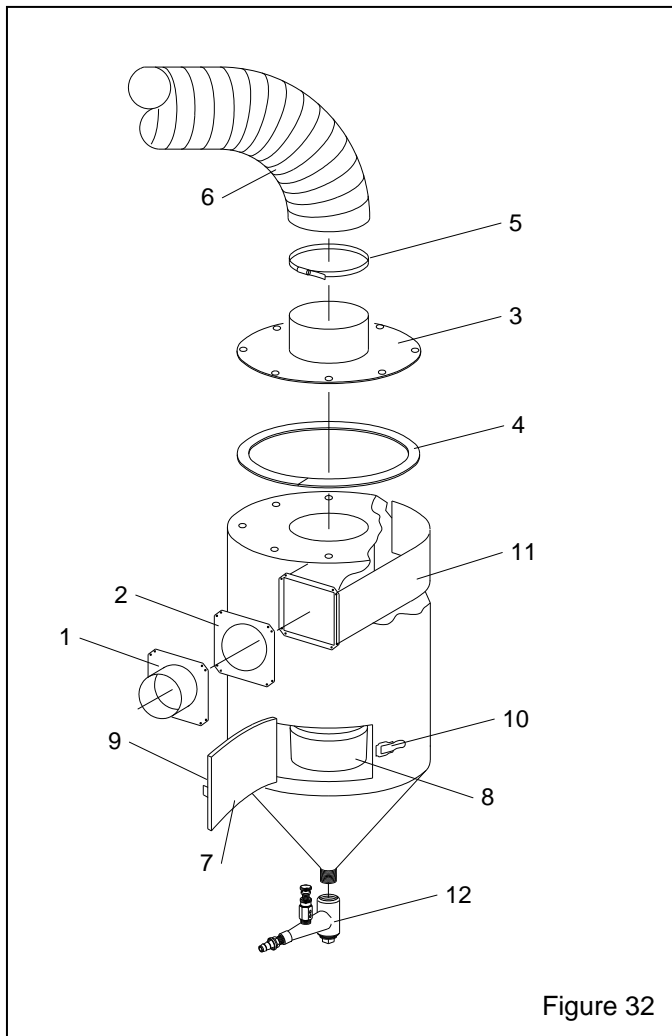

Figure 32
9.8 Reclaimer Assembly, Figure 32